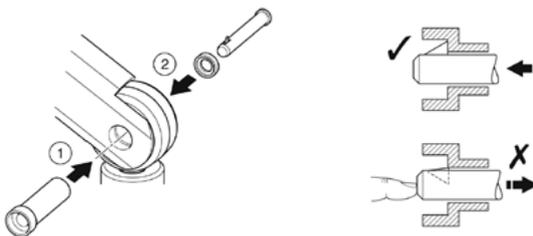

Fig. 11
3. Refit the two halves of the black plastic pivot pin covers around the pivot pin, ensuring the central holes align with the horizontal hole in the pivot pin (See Fig. 11 below)
5. Insert the pin sleeve through the hole in the boom and through black plastic pivot pin covers and the Stretcher Adjustment Cradle pivot pin. Ensure it passes completely through until it protrudes from the other side of the boom (See Fig. 11 below).
6. Insert the quick release pin through the sleeve in the opposite direction until the barb locks into position (See Fig. 11 below).